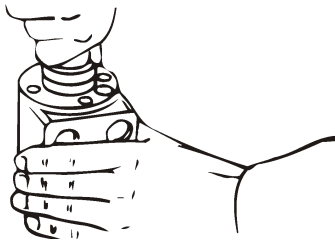

Figure 5-31, Output Shaft In Position
5. Install the needle thrust bearing, then the bearing race onto the output shaft. Pull the output shaft partially out of the housing. Push all three parts into the housing together (Figure 5-31). The bearing race must rotate freely when in position.